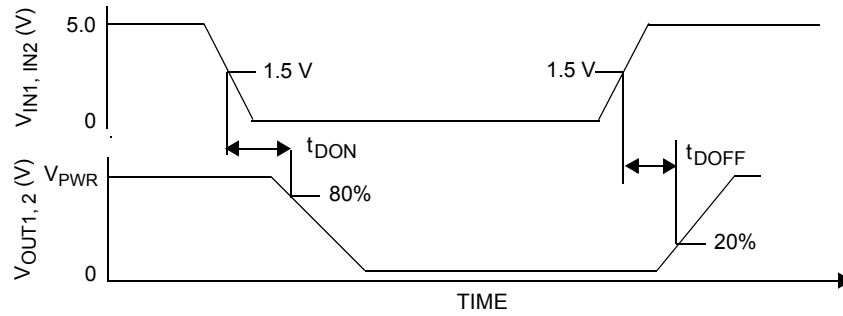

Figure 4. Output Delay Time
22. * Output Delay is the time duration from 1.5V on the IN1 or IN2 input signal to the 20% or 80% point (dependent on the transition direction) of the OUT1 or OUT2 signal. If the output is transitioning HIGH-to-LOW, the delay is from 1.5 V on the input signal to the 80% point of the output response signal. If the output is transitioning LOW-to-HIGH, the delay is from 1.5 V on the input signal to the 20% point of the output response signal. See Figure 4, page 9.